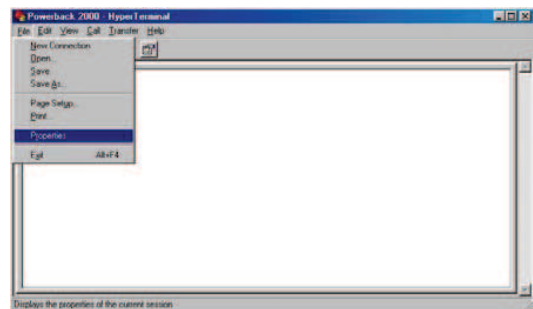

Figure 25
Step 7: A blank window with the entered file name appears (figure 25).
Press **Enter** to go to PowerBack's screen (Figure 25).